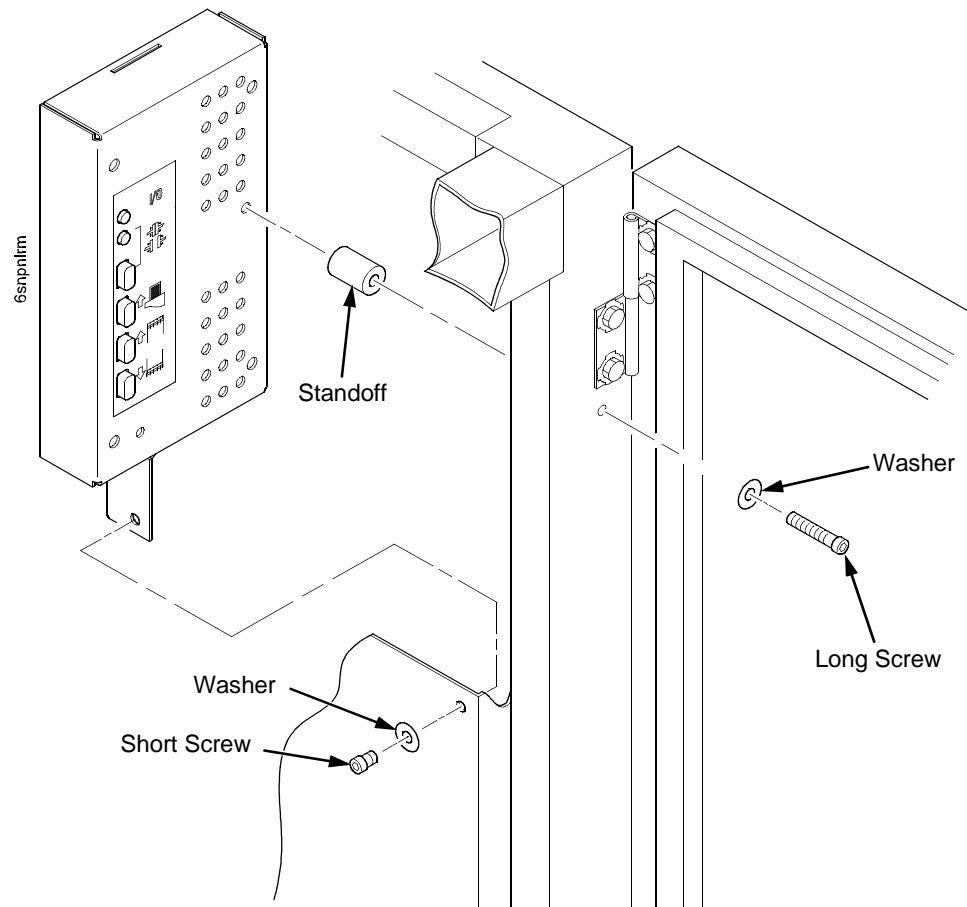

Figure 68. Removing the Stacker Control Panel
13. Remove two screws, washers, and the standoff from the stacker control panel. (Figure 68.)